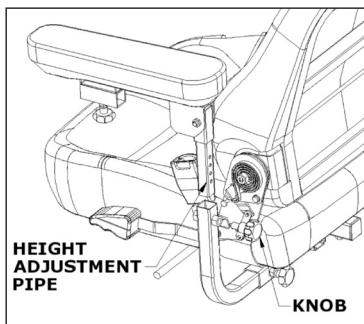

Figure 22. Armrest height adjustment
1. Loosen the knob on the height adjustment pipe. (See figure 22)